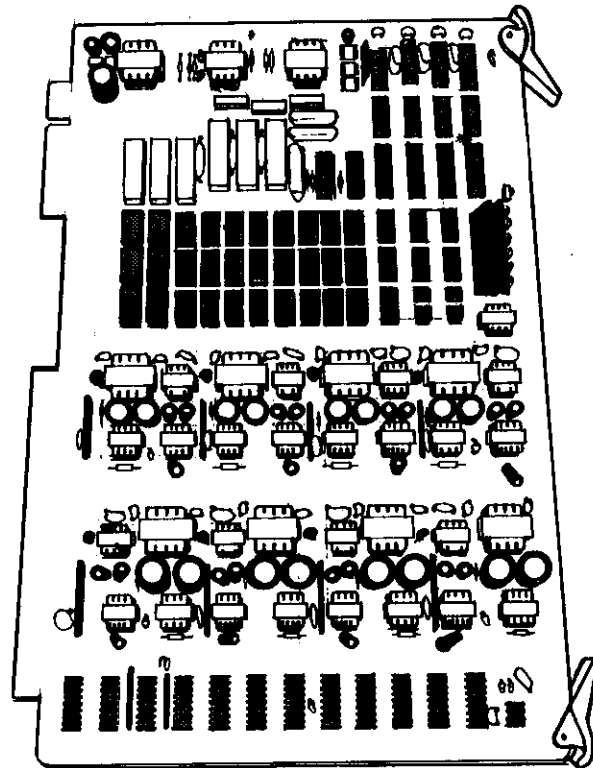

Figure 7-3 3X8U-TA PCB, EK-616
- (b) **3X8U-TA (CO Line / Key Station Interface)**, (Figure 7-3) which contains three line circuits, eight station circuits, one intercom voice switching (talkback) circuit and analog switching components for the lines, stations, and four ICM paths (links).